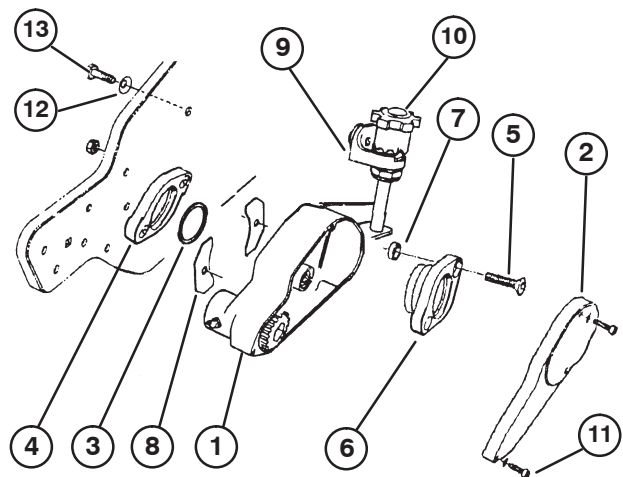

Figure 4
- A. Remove 3 socket head capscrews and lock washers securing cover to groomer housing assembly (Fig. 4).
- B. Remove the Belleville washer and the 3/8 x 5/8 in. capscREW from each mounting block (Fig. 4).
- C. Insert an adapter ring into the reel bearing housing (Fig. 4 & 5).
- D. Insert two 3/8 x 2 in. flat head screws through the bearing adapter and position the spacers on the ends of the screws (Fig. 4 & 5).
- E. Align the bearing adapter, spacers and screws with the bronze bearing and the slots in the groomer housing. Slide the bearing adapter through the bronze bearing and the screws through the slots in the groomer housing assembly (Fig. 4 & 5).
- F. Insert a slot cover onto each screw, aligning the curved side of the slot cover with the curve of the groomer housing. The slot covers are to be positioned curving away from groomer housing (Fig. 4).
- G. Insert the flat head screws into the reel bearing housing. Install the locknuts on the screws and torque them to 23 to 27 ft.-lb (Fig. 4 & 5).
10. Apply blue Loctite to the threads on the groomer shaft. Thread the driven pulley (left hand thread) onto the end of the groomer shaft. Using a 3/8" allen socket on a torque wrench, torque the pulley to 29 to 35 ft.-lb (Fig. 4 & 5).
11. Mount the adjustment knob mounting block to the left side plate with the 3/8 x 5/8" lg. capscrew and Belleville washer previously removed (Fig. 4).
12. Reinstall the left bedbar adjuster frame to the side plate with the capscrews and washers previously removed (Fig. 4).